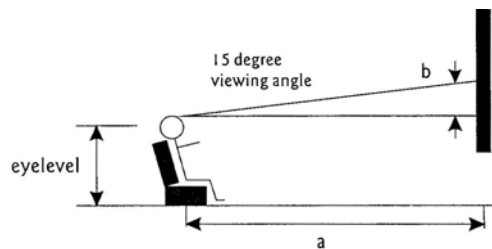

Fig 2a
- the distance between wall and couch (Fig 2a)
- the distance of eyelevel from ground level plus the distance measured from eyelevel of a person sitting on couch with viewing angle of 15 degrees (Fig 2a).